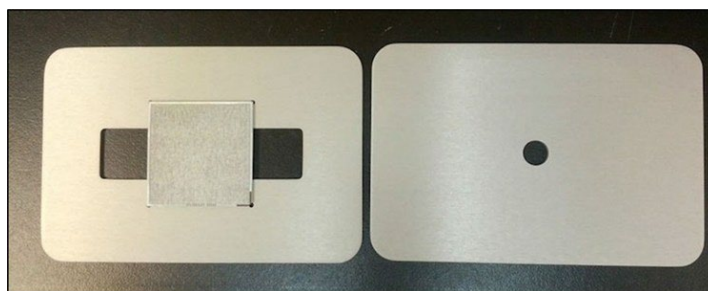

Figure 11. Nanodispenser Chip Centrifuge Spinner (left, with chip loaded) and Chip Balance (right).
18. Place the sealed chip on a Nanodispenser Centrifuge Chip Spinner and centrifuge the sealed chip at 300g for 5 min at 4°C with full acceleration and full brake (Figure 11, below). If you have one chip, balance the centrifuge with a Chip Balance (included with your ICELL8 cx instrument) or a blank chip in a second Nanodispenser Centrifuge Chip Spinner. Proceed to the next protocol (Section V.C) once the centrifugation is complete.